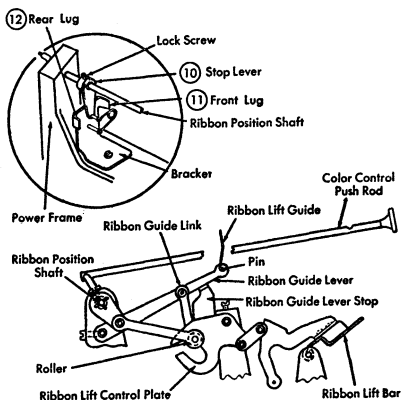

Figure 41. Ribbon Lift Control Mechanism
The color control button positions a small roller attached to the ribbon guide link. When the button is pushed all the way in, the small roller is positioned closest to the pivot point of the ribbon lift control plate. This permits typing in the black ribbon position. When the button is pulled out one notch from the black position, the roller is over a slot in the ribbon lift control plate. This position prevents ribbon lift when the control plate is moved. It also determines the stencil position. Pulling the button out as far as its stop will permit brings the roller farthest away from the pivot point of the control plate. This position gives maximum ribbon lift and allows typing on the bottom portion of the ribbon (Figure 41).
10. THE COLOR CONTROL STOP LEVER should be adjusted to a central position within the lugs of the color control stop bracket when the color control spring is in the "V" of the push rod (Figure 41).
11. THE FRONT LUG of the color control bracket should be formed so that, when the color control stop lever is against it, the tallest characters will strike the ribbon $\frac{1}{32}$ " down from the top edge (Figure 41). In machines below serial number 56770, this condition is obtained by moving the color control spring a small distance when it is engaging the front projection of the push rod. If the spring is moved, recheck and maintain the stencil position.
12. THE REAR LUG of the color control bracket should be formed so that, when the stop lever is against it, the underscore will print $\frac{1}{32}$ " above the bottom edge of the ribbon (Figure 41). In machines with serial numbers below 56770, achieve this adjustment by moving the color control spring when it engages the rear projection on the push rod. Any change in the position of the spring will change the tracking of the type on the upper half of the ribbon and could affect the stencil position. Balance these adjustments carefully.